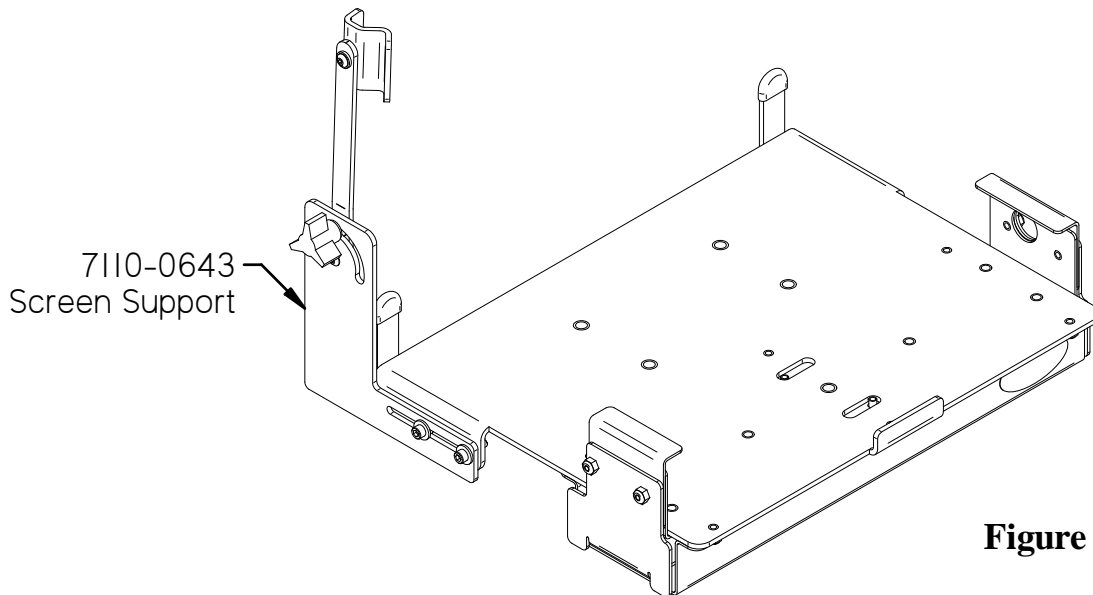

Figure 3
2. The **Screen Support 7110-0643** will attach directly to either side of of the cradle with the machine screws and flat washers provided in the hardware bag that comes with the screen support. See Figure 3.